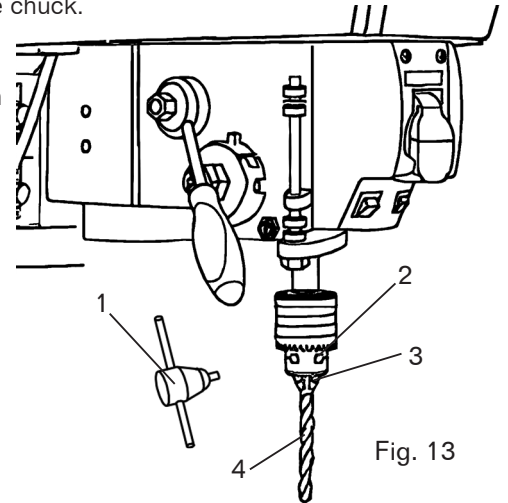

Fig. 13
## INSTALLING A DRILL BIT (FIG. 13)
1. Place the chuck key (Fig. 13 - 1) into the side keyhole of the chuck (Fig. 13 - 2), meshing the key with the gear teeth.
2. Turn the chuck key counterclockwise to open the chuck jaws (Fig. 13 - 3).
3. Insert a drill bit (Fig. 13 - 4) into the chuck far enough to obtain the maximum grip of the chuck jaws on the bit shank.